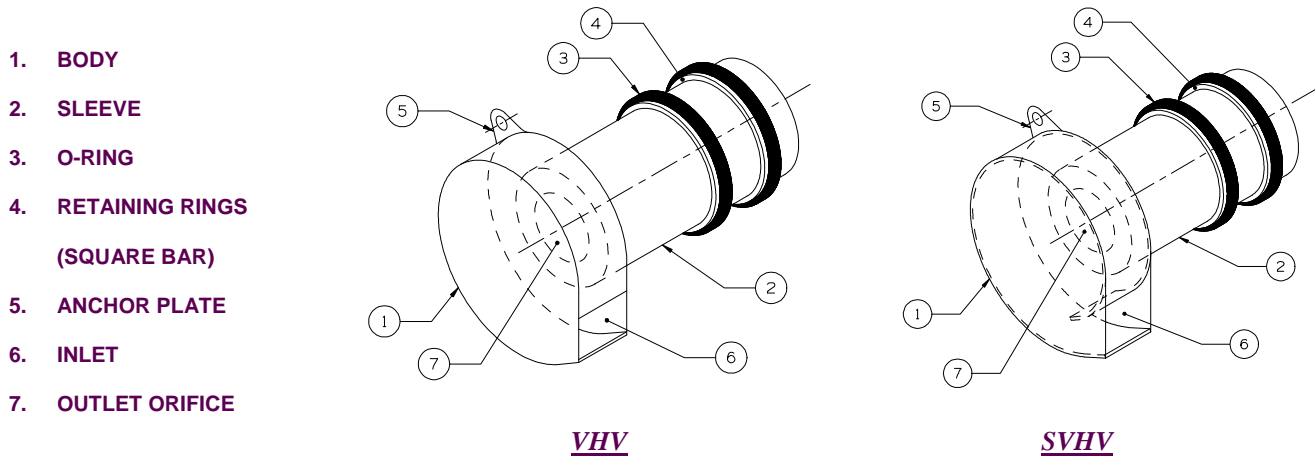

FIGURE 1: HYDROVEX® VHV-SVHV VERTICAL VORTEX FLOW REGULATORS
The **HYDROVEX® VHV / SVHV** Vertical Vortex Flow Regulators (refer to **Figure 1**) are manufactured entirely of stainless steel, and consist of a hollow body (1) (in which flow control takes place) and an outlet orifice (7). Two rubber "O" rings (3) seal and retain the unit inside the outlet pipe. Two stainless steel retaining rings (4) are welded on the outlet sleeve to ensure that there is no shifting of the "O" rings during installation and use.